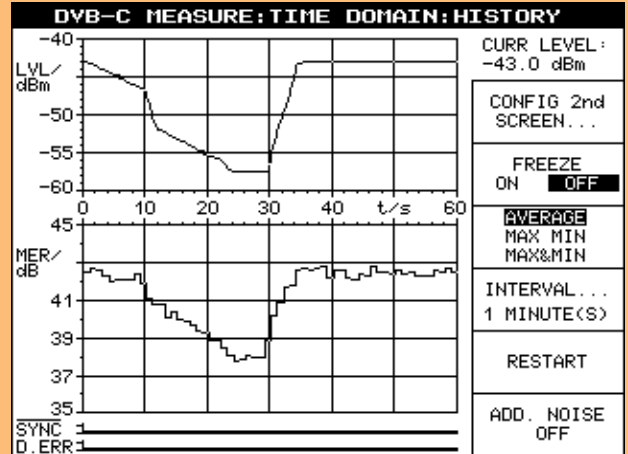

Fig. 12: Monitoring/Alarm register
- ◆ Monitoring window (Fig. 12)